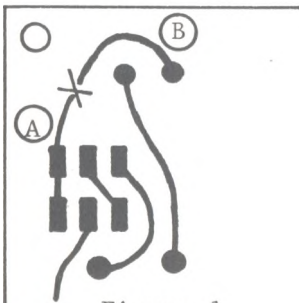

Figure 1
**The modification.** Look at the foil side of the circuit board, with the wire connections on the bottom; the upper left hand corner should be marked P100. Figure 1 shows a detail of this section of the board. Cut the trace between points A and B as shown to disconnect the opto-isolators from the driver transistors, then connect up points A and B to the circuit in figure 2. Work fast when soldering, especially point B - you wouldn't want